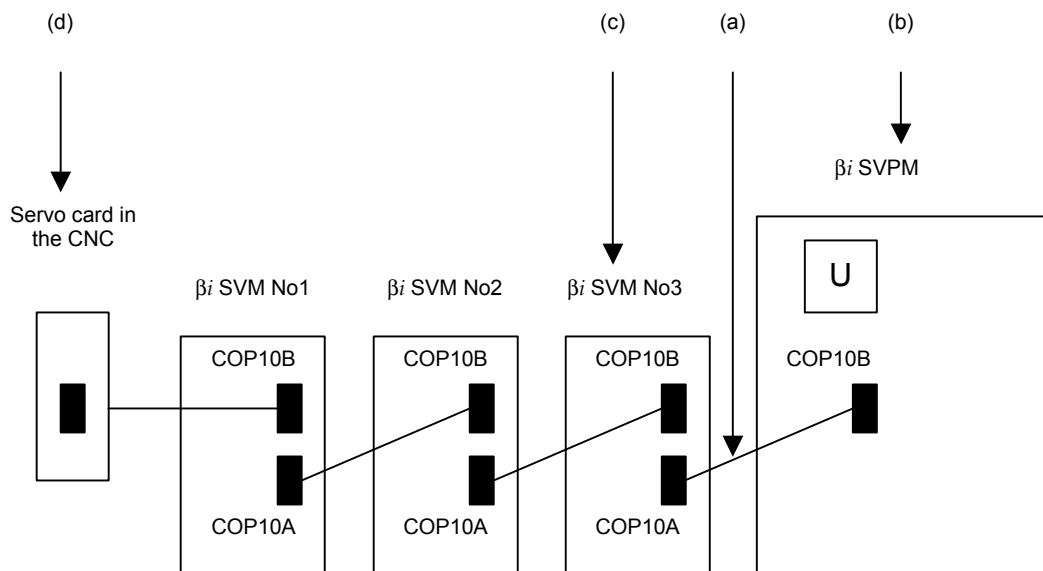

Fig. 3.2.8
(2) Cause and troubleshooting
- (a) Replace the  $\beta i$  SVM optical cable (COP10B) that is nearest to the  $\beta i$  SVPM on which "U" is displayed (in Fig. 3.2.8, the cable between  $\beta i$  SVM No.3 and  $\beta i$  SVPM).
- (b) Replace the  $\beta i$  SVM that is nearest to the  $\beta i$  SVPM on which "U" is displayed (in Fig. 3.2.8,  $\beta i$  SVM No.3).
- (c) Replace the COP10B-side  $\beta i$  SVM that is nearest to the  $\beta i$  SVPM on which "U" is displayed (in Fig. 3.2.8,  $\beta i$  SVM No.2).